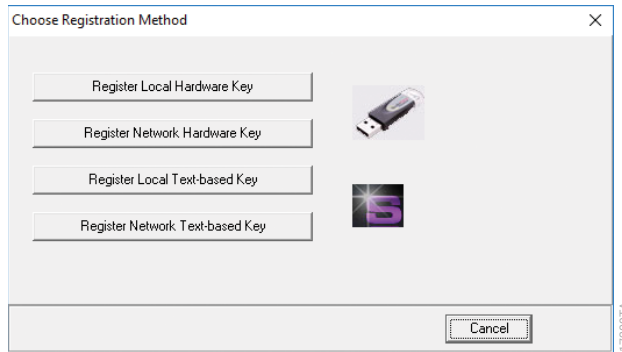
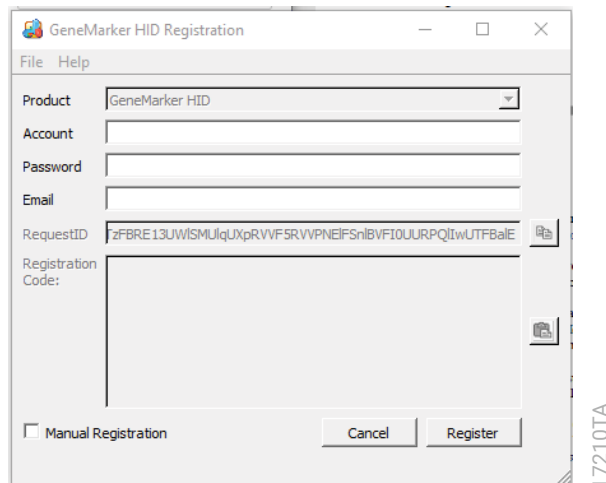

Figure 14. 'Choose Registration Method' window.
Figure 15. 'GeneMarkerHID Registration' window.
3. Select **Register Local Text-based Key** in the 'Choose Registration Method' window (Figure 14). This opens the 'GeneMarker HID Registration' window (Figure 15). The Request Code is automatically generated by the software.
3. The setup wizard will launch, displaying the 'License Agreement' window (Figure 15).
4. Read the SoftGenetics End User License Agreement (EULA) and select **I Agree** (Figure 15). The EULA can also be reviewed at: www.softgenetics.com/gmhid-spectrumeula